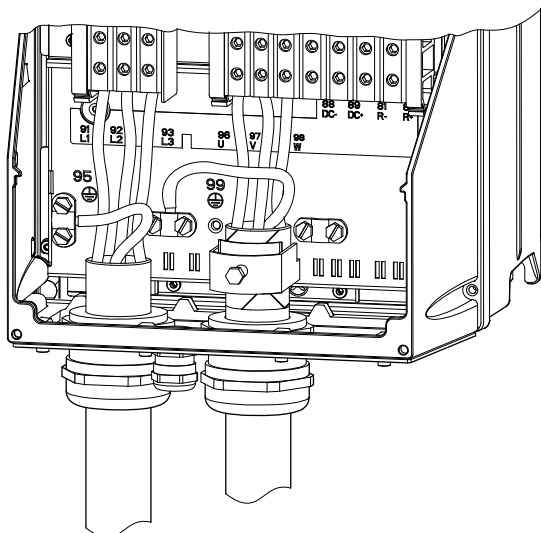

Fig. 18 Mains and motor connection, C1 and C2
1. Connect the ground conductor to terminal 95 (PE). See fig. 18.
1. Connect the ground conductor to terminal 99 (PE). See fig. 18.
2. Connect the motor conductors to the terminals 96 (U), 97 (V), 98 (W).